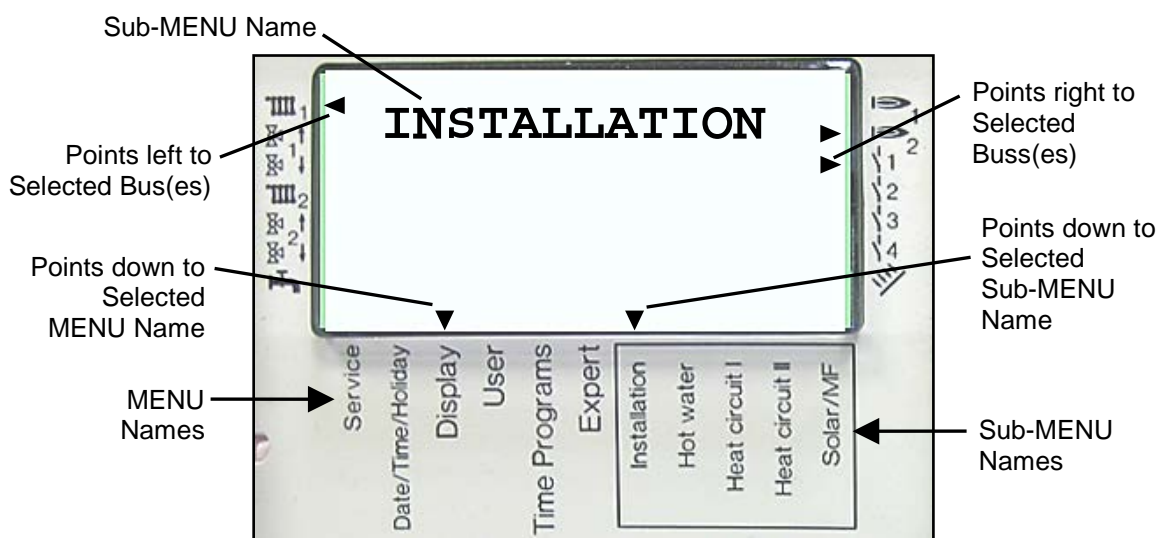

Figure 3-4: E8 Display in MENU Mode (after first opening hinged door)
Selected Menu and Sub-menu are indicated by two black arrows at display bottom pointing to the Menu and Sub-menu names silk-screened below the display (see **Figure 3-4**).
1. When the ON/OFF switch on the front of the boiler is turned ON and the swing-down hinged panel is opened, the controller will enter MENU Mode and INSTALLATION will be displayed (Figure 3-4) in the LCD. This is the initial INSTALLATION menu and it is assumed that all entries have already been made. See **sub-section 4.8** for INSTALLATION menu initial entry information.
2. Turn the Rotary Knob clockwise until the display advances to the DISPLAY menu. The dial on the clock face will rotate one revolution counterclockwise and then go off. The display will then show INSTALLATION, which is the first sub-menu in the DISPLAY menu group (**Figure 3-4**). The two small black arrows at bottom of the display will point down to the menu and submenu names, in this case DISPLAY and INSTALLATION, respectively.
Use Rotary Knob to navigate to desired Menu/Sub-menu. Menu and sub-menu are indicated by two small black arrows at bottom of LCD display pointing down to menu/sub-menu names below display (see Figure 3-4).	<p>Example: User Menu & Hot Water Sub-menu</p>  <p>Display Detail</p> <p>HOT-WATER Displayed Sub-menu</p>